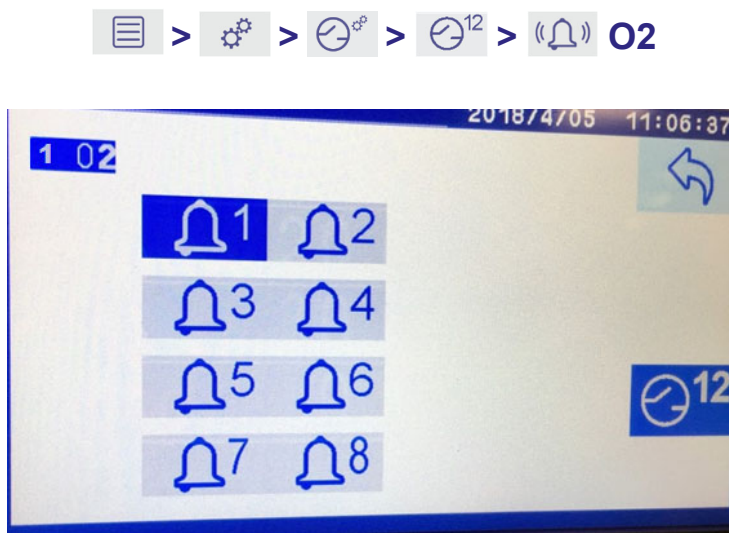

Figure 11-12: Alarm assignment screen for O₂ (Relay #12)
- touch the icon for Alarm #1  as shown in Figure 11-12 to set the alarm